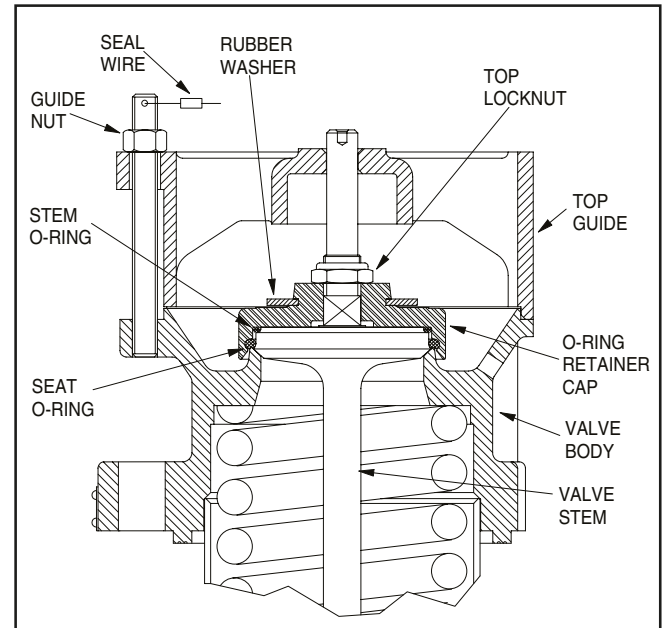

Figure 18 - Internal-style Valve Components
4.4.1 Remove the top seal wire (Fig. 18).